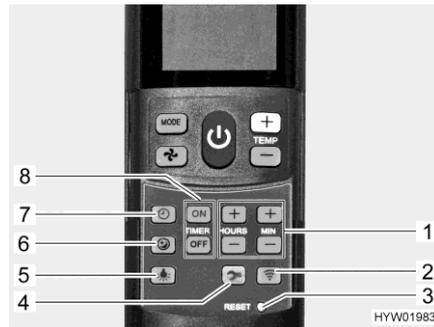

Fig. 237 Remote control with setting buttons (air conditioning unit)
Activating soft-start: ■ Press the soft-start button (Fig. 237,6). The fan then runs at low speed in cooling mode, which makes it especially quiet.
Setting the time: ■ Press the time button (Fig. 237,7).
■ Set the hours and minutes with the buttons (Fig. 237,1).
Programming the switching on time: ■ Press "ON" button (Fig. 237,8).
■ Press the buttons for setting the time (Fig. 237,1) until the desired time span until switch-on is reached.
■ Press "ON" button (Fig. 237,8).
Programming the switch-off time: ■ Press "OFF" button (Fig. 237,8).
■ Press the buttons for setting the time (Fig. 237,1) until the desired time span until switch-off is reached.
■ Press "OFF" button (Fig. 237,8).
Deactivating the timer: ■ Press the "ON" or "OFF" button (Fig. 237,8) again.
Switching on the lighting: ■ Press the light button (Fig. 237,5). The light is switched on at the last set dimming level.
Dimming the lighting: ■ Press the light button (Fig. 237,5) and keep it pressed until the desired brightness is reached.
Switching off the lighting: ■ Press the light button (Fig. 237,5).
- ▷ The Setup button (Fig. 237,4) is used to connect the remote control with the air conditioning unit during first set-up.